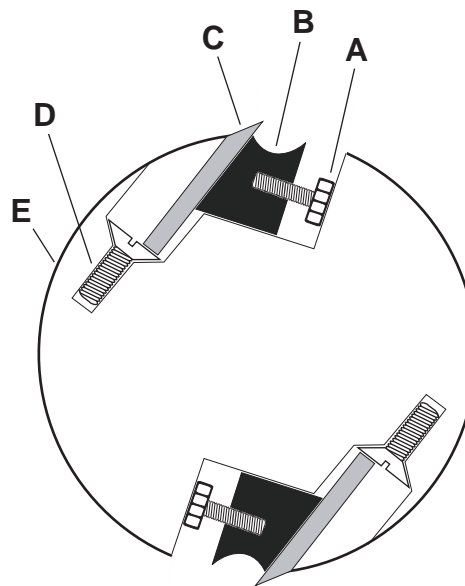

Figure 15
3. Rotate the *cutterhead* (E) until one knife is in the 12 o'clock position. The 12 o'clock position is the highest point a blade will reach in the cutting arc (C, Fig. 15).
4. Place the *knife setting gauge* (J) on the *outfeed table* (F). One end of the gauge should be positioned over the *cutting knife* (C) towards the near end of the blade (G).